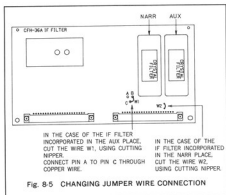

Fig. 8-5 CHANGING JUMPER WIRE CONNECTION
- 4) Change over the jumper wire according to Fig. 8-5.